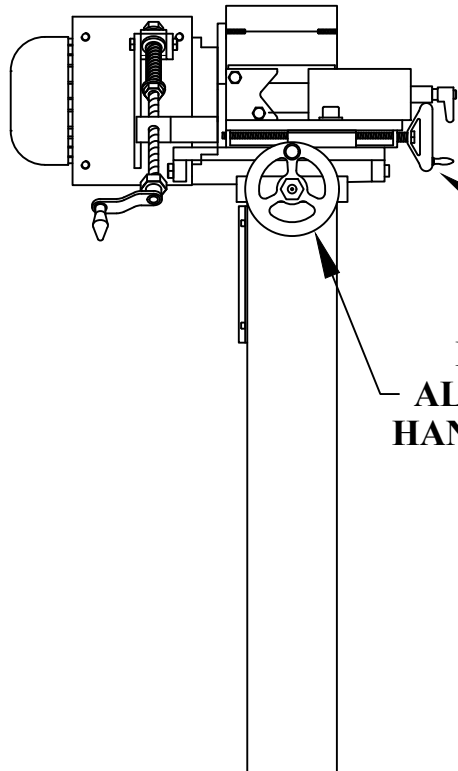

FIGURE 3
This grinder/notcher machine is shipped unassembled in a wooden crate. There are basically four parts. See FIGURE 3 on the next page.
- **Remove the support pillar from the packaging and bolt them together with (4) bolts and washers.**
- **Remove the machine from the packaging. To do so, use the Lifting Eye Shown in FIGURE 3. Use the proper lifting equipment as this machine weighs 200 kg (440 lbs).**
See FIGURE 3 in Sect. 4.2 for Lower Handle mounting instructions.